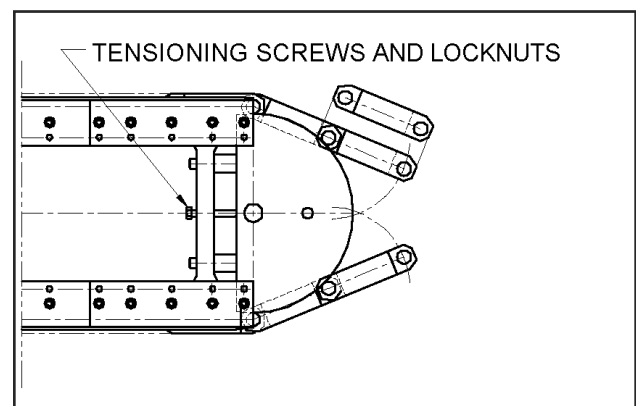
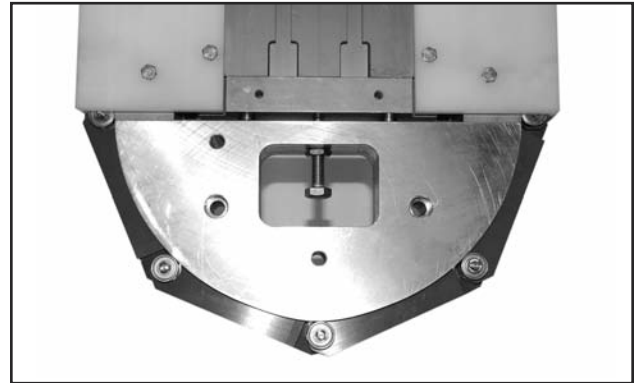

Figure 1 Removing link
Figure 3
4. Back off the tensioning screws two turns. Refer to Figure 1 and Figure 3.